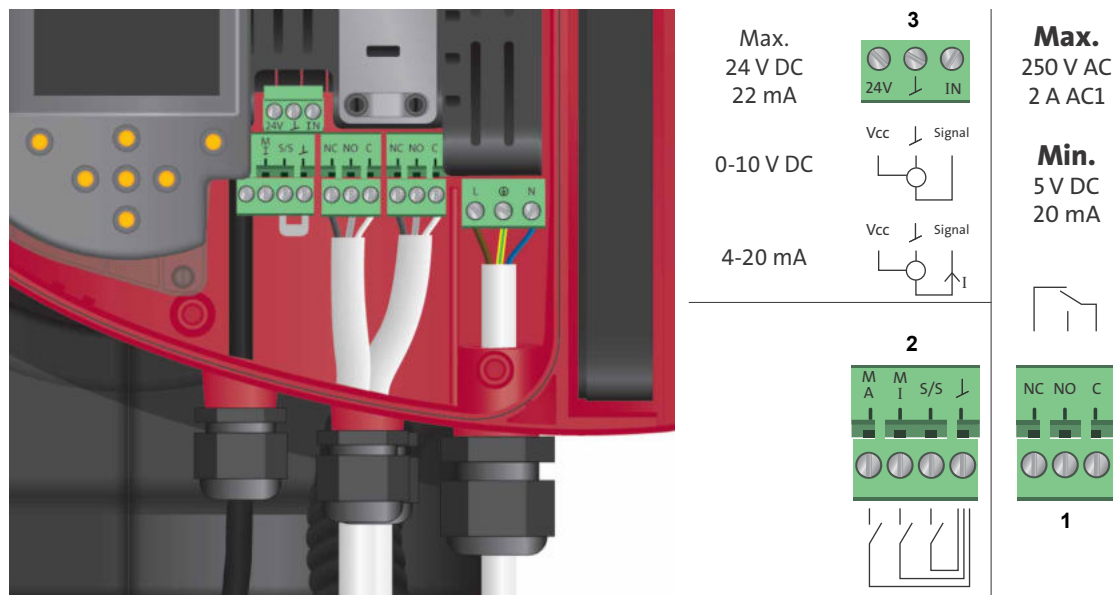

Fig. 10 Connection diagram
See fig. 10, pos. 1.
See fig. 10, pos. 2.
See fig. 10, pos. 3.